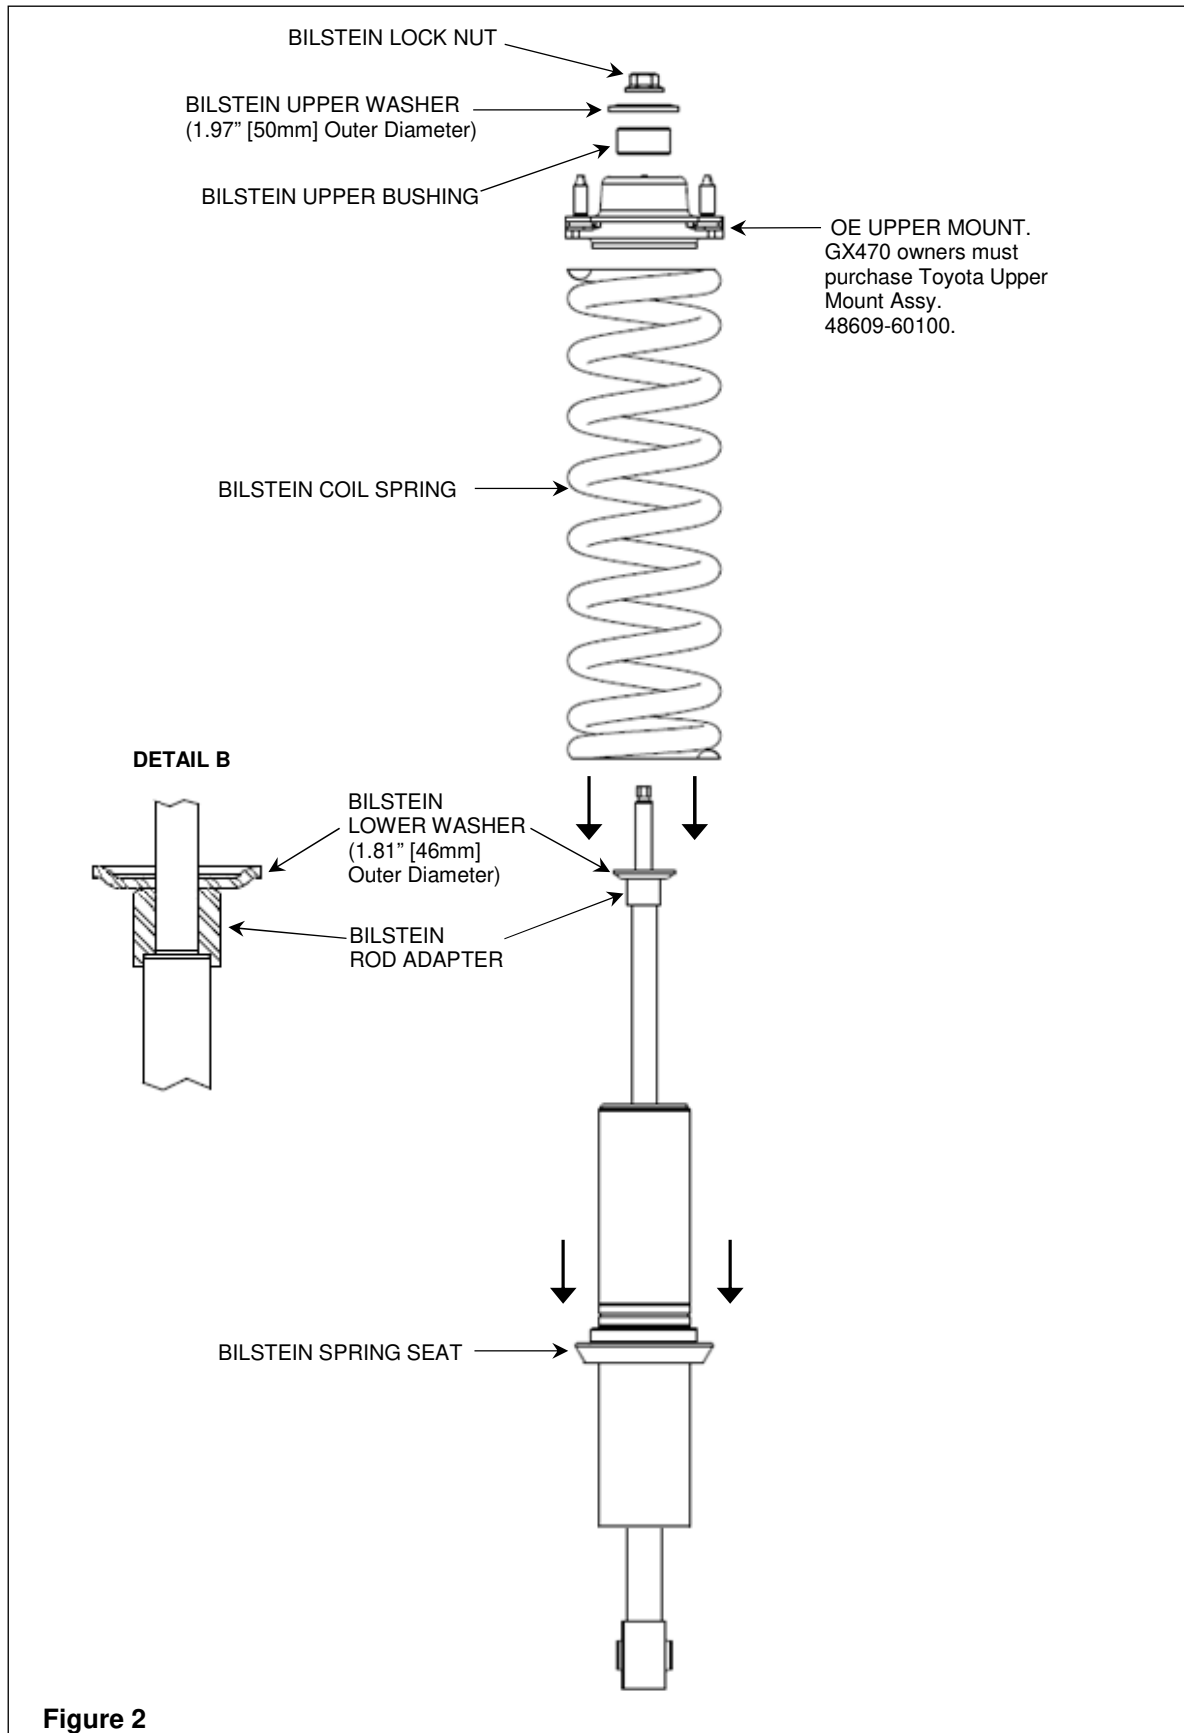

Figure 2
- F. Install the supplied rod adapter (counter bore side down) onto the stem of the rod as shown. Ensure that the rod adapter is oriented correctly (see Figure 2 Detail B).
- G. Install the supplied lower washer (concave side up) onto the stem of the rod as shown. Ensure that the lower washer is oriented correctly (see Figure 2 Detail B).
- H. Using an appropriate spring compressor, compress the supplied coil spring and assemble it with the new Bilstein shock. Refer to Figure 2 for the order of the remaining components.
- J. Install the supplied upper bushing and supplied upper washer (concave side down) onto the stem of the rod as shown. Ensure that the upper washer is oriented correctly (see Figure 2).